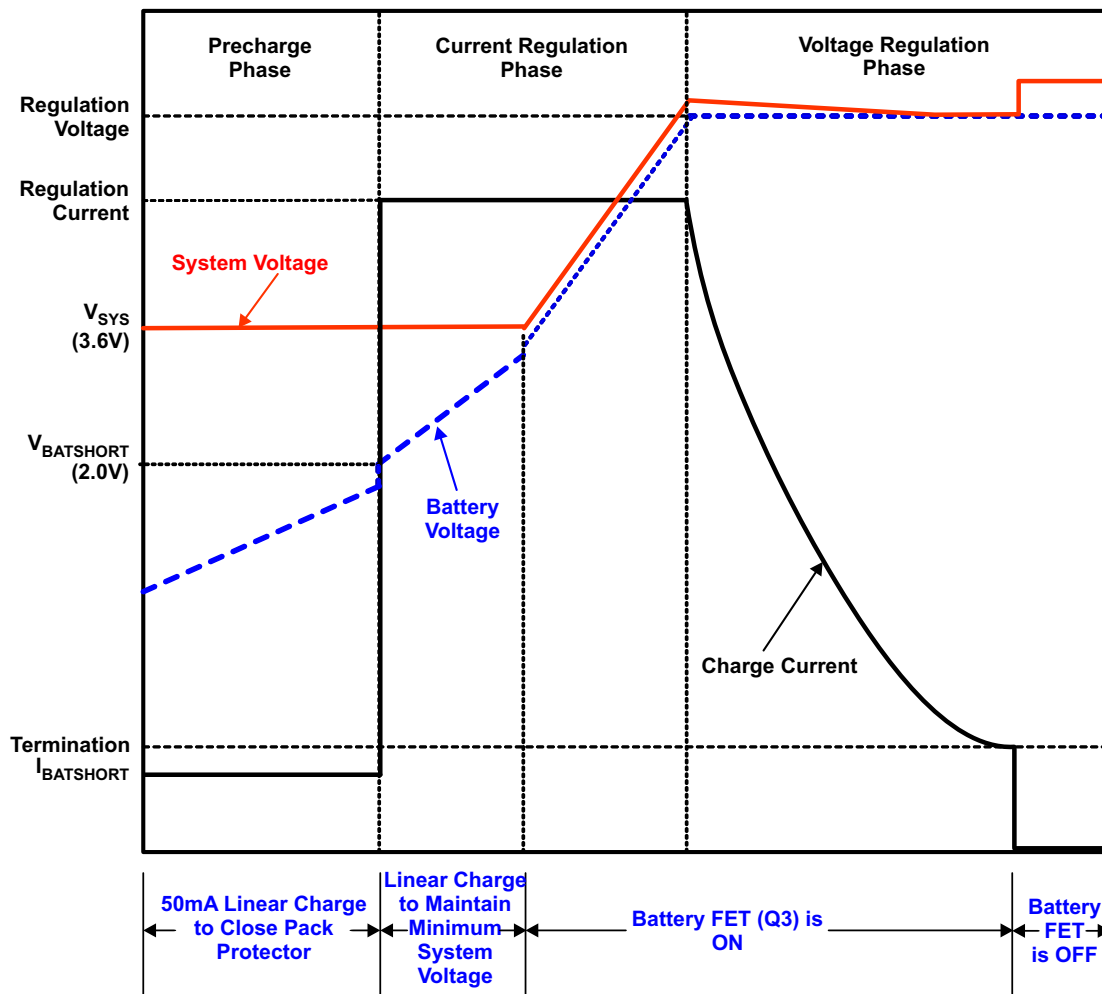

Figure 10. Typical Charging Profile of bq24188 with Termination Enabled
The bq24188 supports a precision Li-Ion or Li-Polymer charging system for single-cell applications. Charging is done through the internal battery MOSFET. There are 6 loops that influence the charge current; constant current loop (CC), constant voltage loop (CV), thermal regulation loop, minimum system voltage loop (MINSYS), input current limit and V_{IN} -DPM. During the charging process, all six loops are enabled and the one that is dominant takes control. The minimum system output feature regulates the system voltage to $V_{SYSREG(LO)}$, so that startup is enabled even for a missing or deeply discharged battery. Figure 10 shows a typical charge profile including the minimum system output feature.
Once the battery is charged enough that the system voltage rises above $V_{SYSREG(LO)}$ (approximately 3.5V), the battery FET is turned on fully and the battery is charged with the full programmed charge current set by the I²C interface, I_{CHARGE} . The charge current is regulated to I_{CHARGE} until the voltage between BAT and PGND reaches the regulation voltage. The voltage between BAT and PGND is regulated to V_{BATREG} (CV mode) while the charge current naturally tapers down as shown in Figure 10. During CV mode, the SYS output remains connected to the battery. The impedance of the battery FET is increased to 4x of the fully on value when IBAT falls below ~350mA to provide increased accuracy during termination. This will show a small rise in the SYS voltage when the $R_{DS(on)}$ increases below ~350mA.